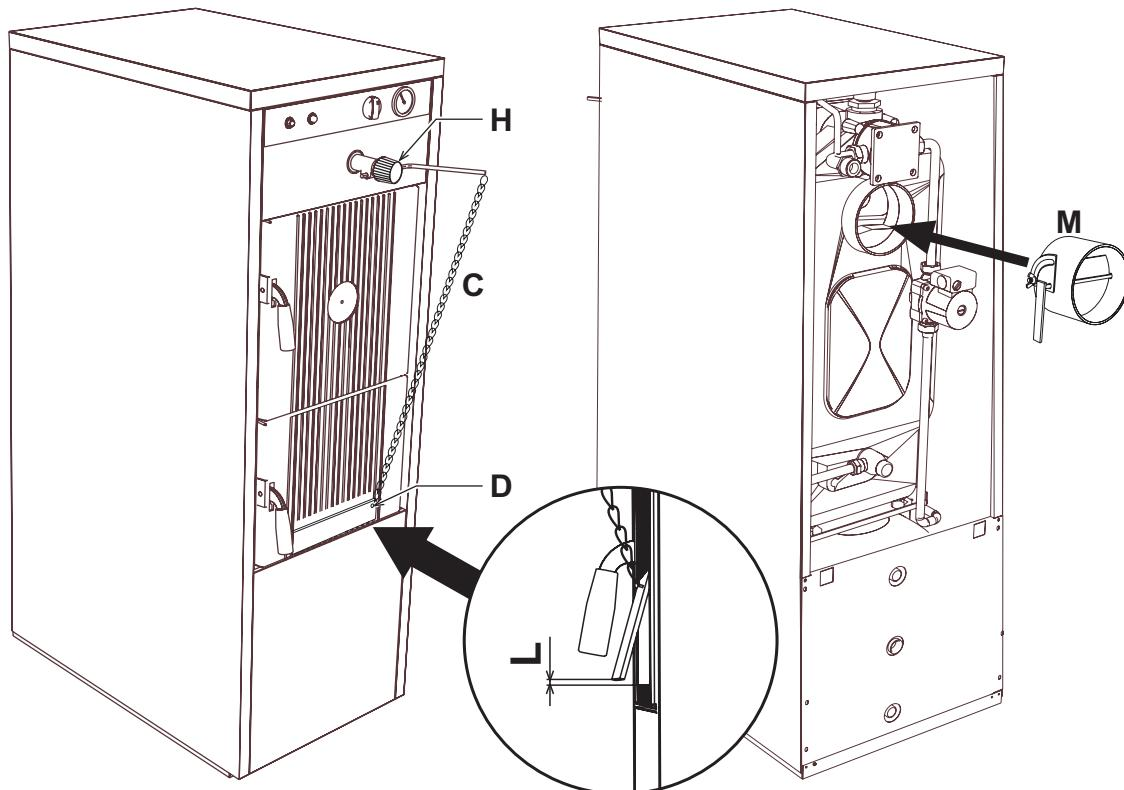

fig. 2 - Installation
2. Fit the thermostatic control "H" (fig. 2).
3. Fit the draught control "M" (fig. 2) and connect the boiler to the flue.
5. Adjust the air inlet door adjustment screw so that in any case there remains an air passage of not more than 1 - 2 mm. With the boiler cold, set the thermostat to 60°. Hook the chain "C" to the special air inlet door eyelet "D", adjusting its length so that the air passage "L" (fig. 2) is approx. 15 mm for "coke III" and 2 mm for "wood".
Adjust the air inlet door adjustment screw so that in any case there remains an air passage of not more than 1 - 2 mm. With the boiler cold, set the thermostat to 60°. Hook the chain to the special air inlet door eyelet, adjusting its length so that the air passage "L" (fig. 2) is approx. 15 mm for "coke III" and 2 mm for "wood".